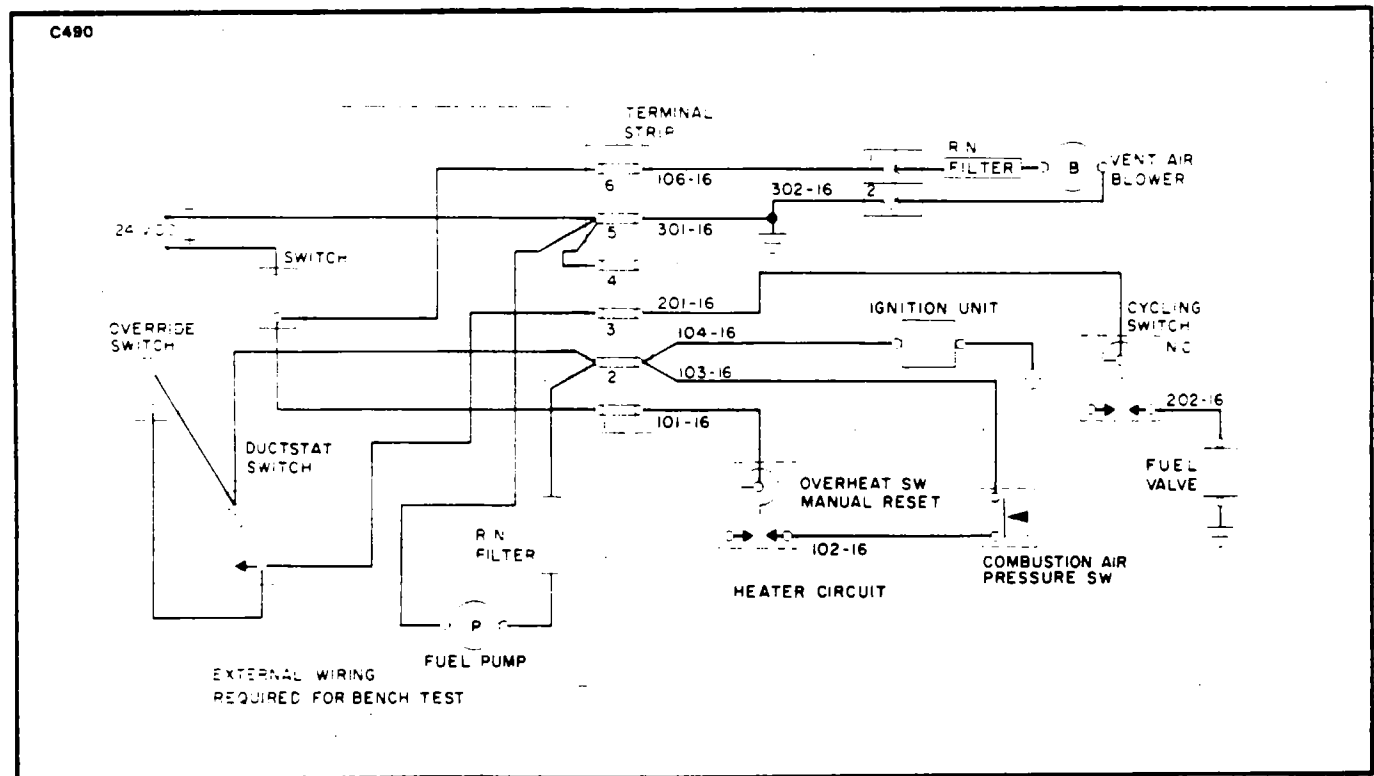

Figure 13-20. Wiring Connections for Heater Operation Test
- c. Connect components and heater as outlined in the wiring connection diagram, Figure 13-20. The power supply switch should be open.